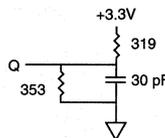

Fig. 1 OUTPUT LOAD EQUIVALENT
Output load .....	See Figures 1 and 2
- Test conditions as specified with the output loading as shown in Fig. 1, unless otherwise noted.